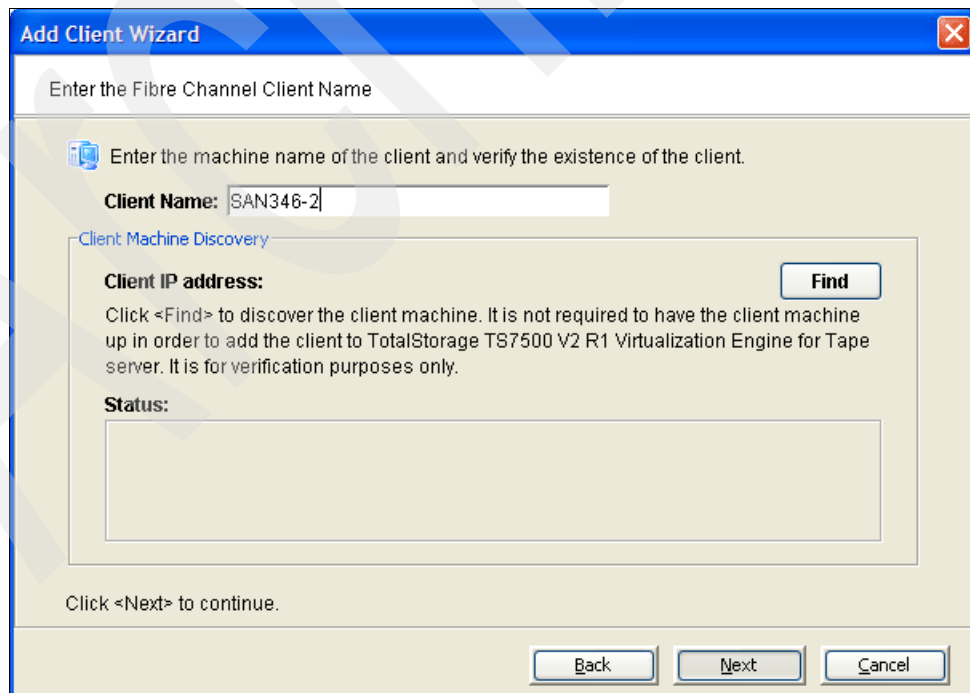

Figure 6-54 Adding SAN client: name
3. In the Enter the Fibre Channel Client Name panel (Figure 6-54), type the client name from the Fibre Channel Backup Host Worksheet. Click **Next**.